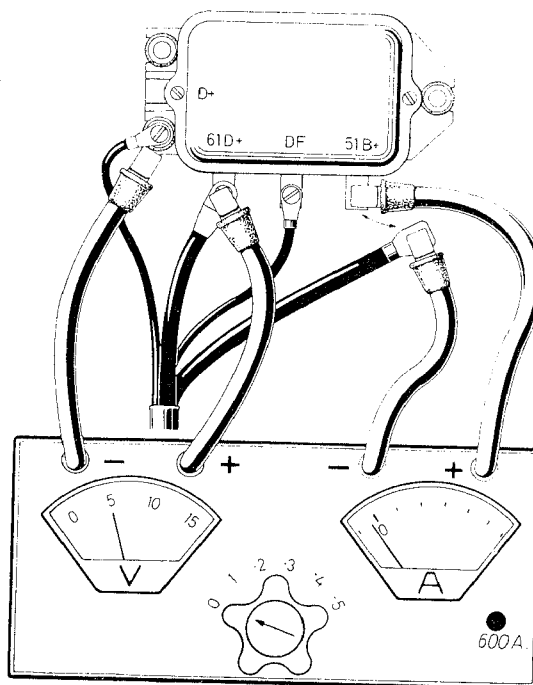

Fig. 10
1. Set regulator to zero. Connect battery lead "51 B+" (insulated until now) to negative lead of ammeter. Connect positive lead of ammeter to terminal "B 51+" of the regulator (Fig. 10).